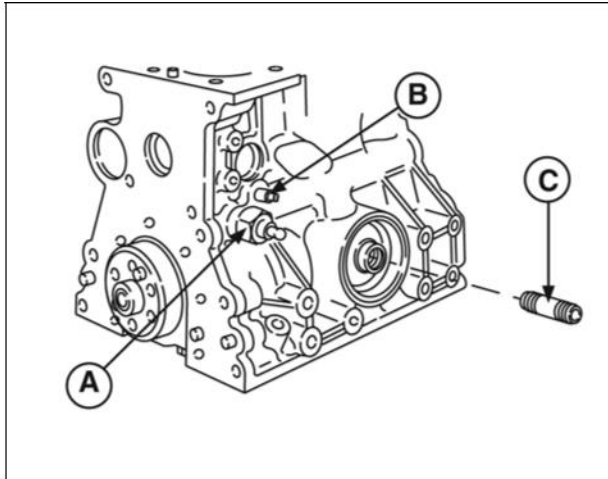

Figure 10
3. Remove oil pressure switch (A, Figure 10), water gallery plug (B), and oil filter adapter (C).